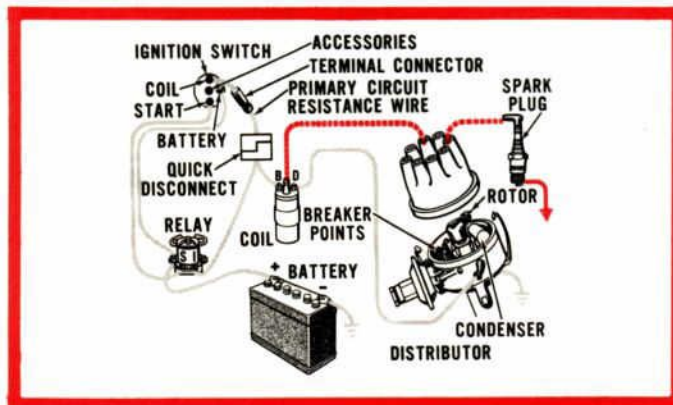

Figure 2—Secondary Circuit
**Secondary Circuit**—During the time the breaker points are open, the primary circuit becomes inactive, and the secondary circuit becomes “hot”. Figure 2. High voltage current (5,000 to 20,000 volts depending on engine